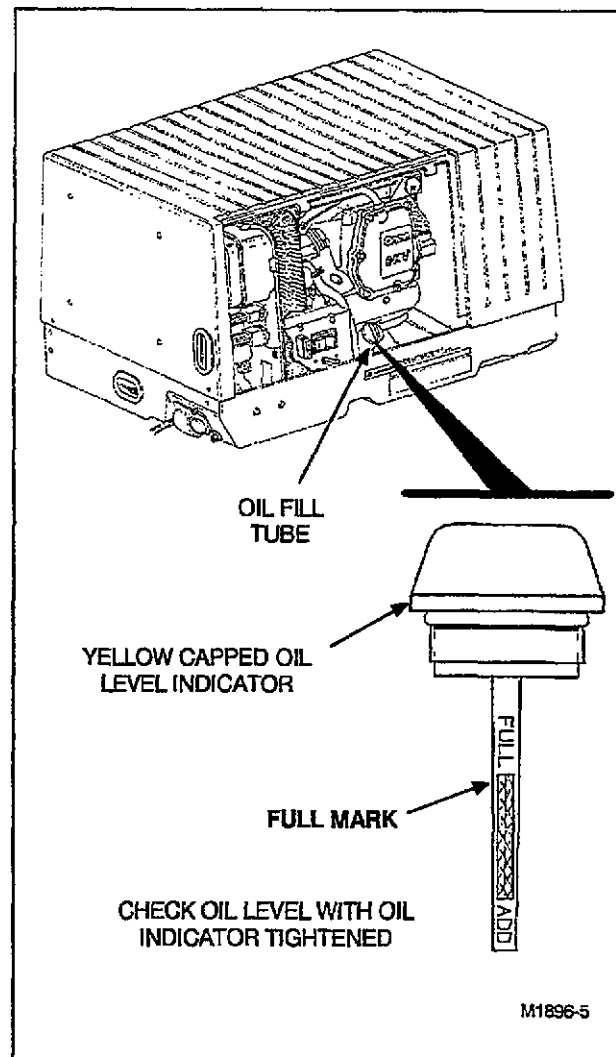

FIGURE 5. OIL LEVEL CHECK
1. Remove the yellow oil level indicator and wipe it with a clean rag (Figure 5).